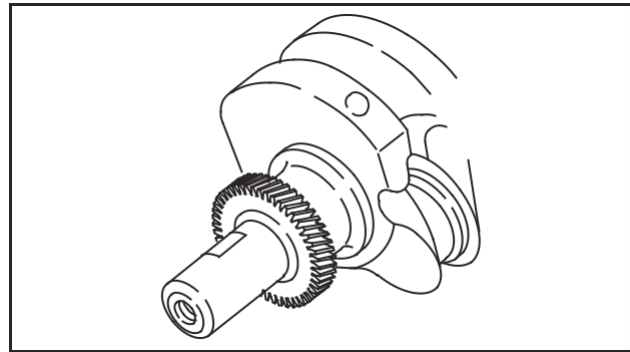

Fig. 3 – Checking Timing Gear
3. Check crankshaft timing gear teeth for damaged teeth, Fig. 3.